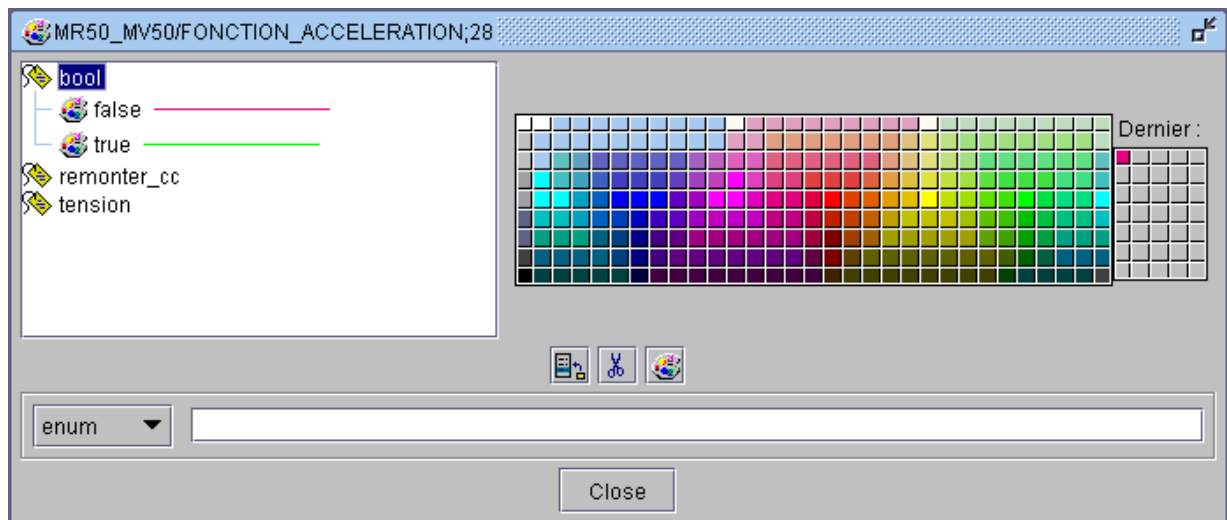

Figure 157 : Boolean variable colours
- ♦ The Links colours window (Figure 157) is displayed: it contains in its right part a colour palette, and in its left part, an area displaying the link colours arranged according to their type.
- ♦ When a new architecture is created, the boolean type is the default type with two colours (modifiable) (Figure 157):